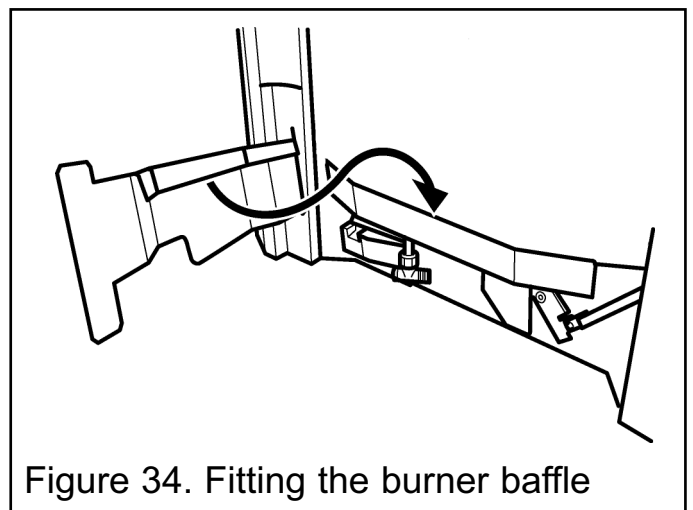

Figure 34. Fitting the burner baffle
7. Fit the burner baffle to the front flanges of the burner. To do this, place the baffle against the front flanges of the burner and lower into position. The return edges on the rear of the baffle should slot over the front flanges of the burner (See figure 34).